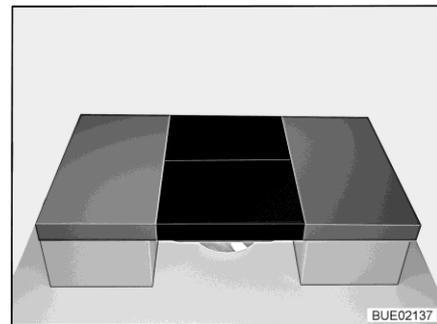

Fig. 166 After conversion
- Place two additional cushions on the table (see Fig. 166).